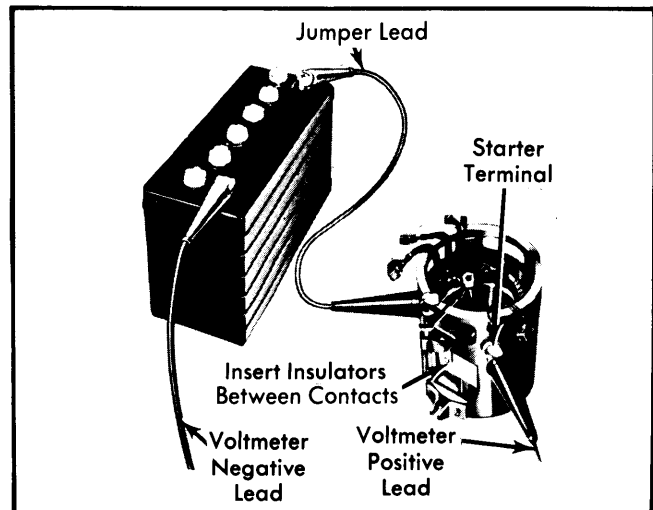

Fig. 4 Using Voltmeter to Check for Grounded Field Windings
**Field Coil Assembly** — Inspect the field coils for burned or broken insulation and continuity. Check field brush connections and lead insulation. To check for grounded field windings, connect a voltmeter to starter (see Fig. 4). If voltmeter indicates any voltage, field windings are grounded. **NOTE** — Both field brushes and holding coil ground lead must be kept away from frame during this test and holding coil ground lead disconnected.